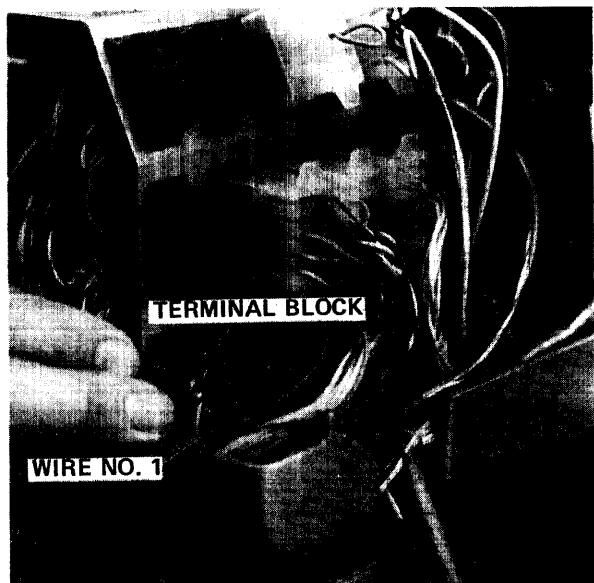

Figure 4. Terminal Block
2. A full duplex hook-up must be created internally. This is accomplished by moving two wires on a terminal strip. (See Figures 4 and 6.)
3. The receiver current level must be changed from 60mA to 20mA. This is accomplished by moving a single wire. (See Figures 4 and 6.)